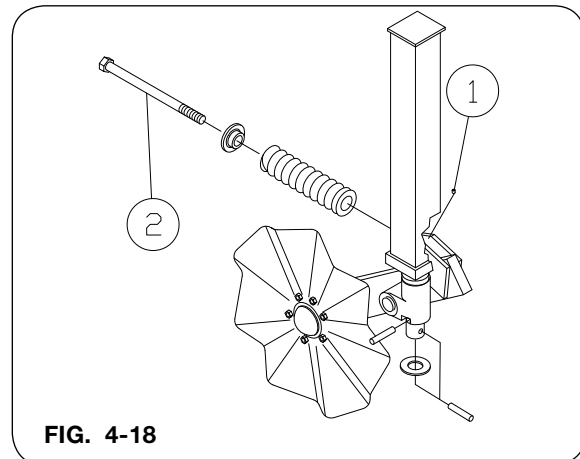

FIG. 4-18
1. Loosen the set screw retaining the spring bolt on the coulter arm (Fig. 4-18).
2. Slowly unscrew the spring bolt which will relieve spring pressure (Fig. 4-18).